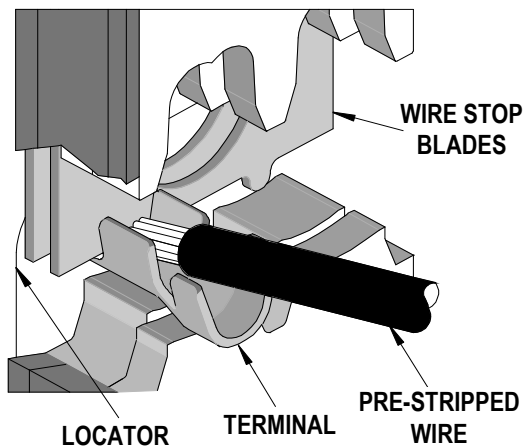

Figure 1
4. Slide the pre-stripped wire into the terminal; make sure to aim the wire brush towards the tip point on the wire stop blade. See Figure 1. Align the wire so that it is parallel and sitting into the terminal. Maintain a light and constant pressure on the wire that is seated in the terminal at all times. (Do not let go of the wire.) Be sure to hold the wire and terminal in place until the terminal is fully crimped. See Figure 2.